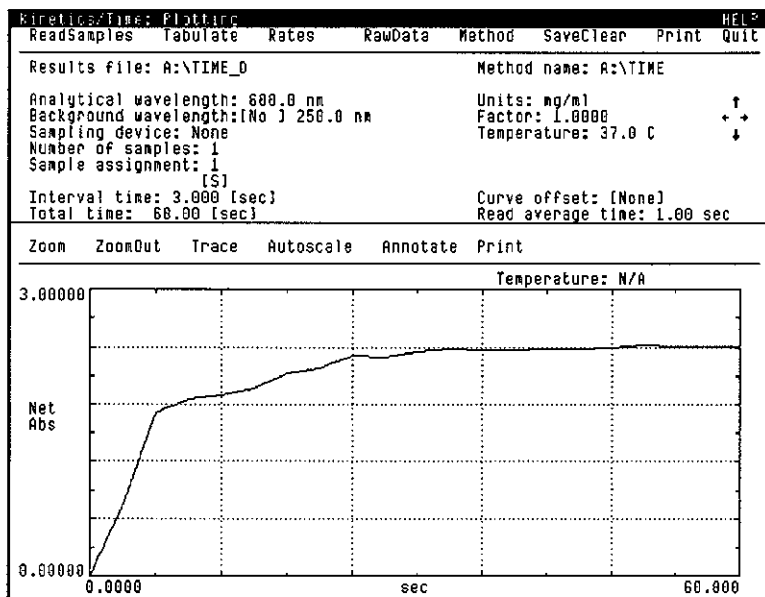

Figure 4-8. Plotting Window
1. With the Main window displayed, click on "KINETICS/TIME" to display the Plotting window, Figure 4-8.